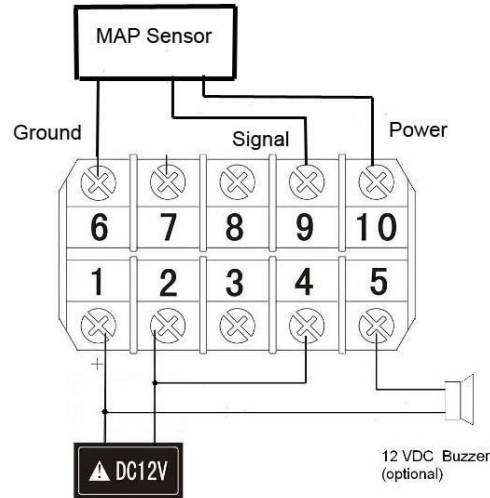

Fig 1. Wiring diagram for SYL-1813 automobile multimeter.
1) Wiring the sensor as shown in Fig 1. Connecting power lead (red or brown) to terminal 10, signal lead (green or blue) to terminal 9, and ground lead (black) to terminal 6. The 12V DC buzzer is optional.